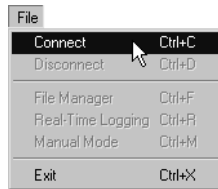

Figure 3-4. Click File ▶ Connect
- Click **File** ▶ **Connect** (Figure 3-4).